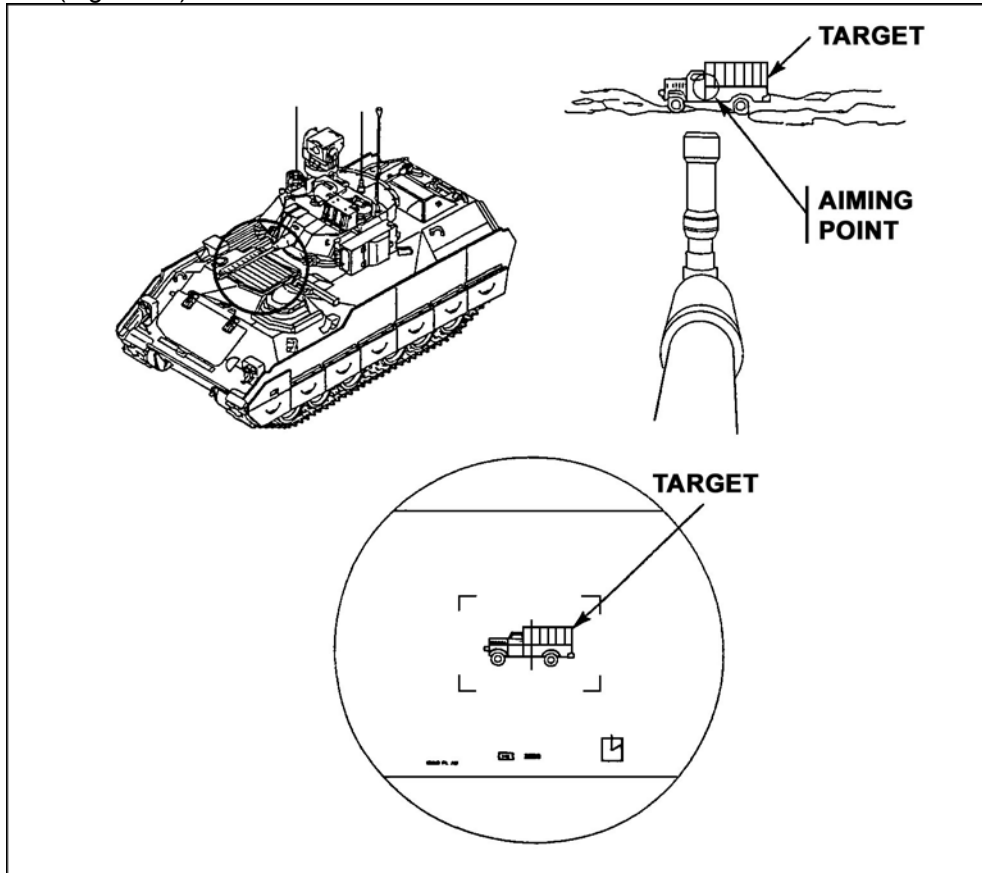

Figure 24. TAS reticle.
- ( b ) To move the reticle in azimuth (AZ), loosen the horizontal adjustment locking screw using the Allen wrench located in the 7.62mm boresight kit and turn the horizontal adjustment screw clockwise or counterclockwise.
- (4) Use DVO (preferred), or DAY TV.
- (5) Select high magnification (HI MAG) - narrow field of view (NFOV) using HI/LO MAG switch on the GHS.
- (6) Center target acquisition system (TAS) reticle on the boresight panel using the GHS (Figure 24).